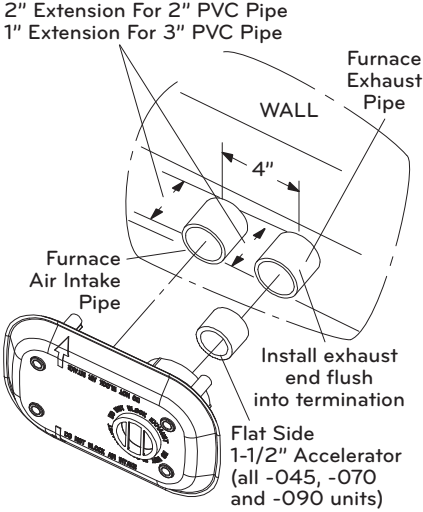
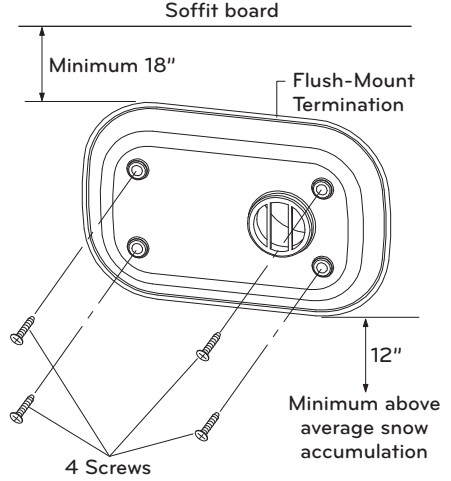
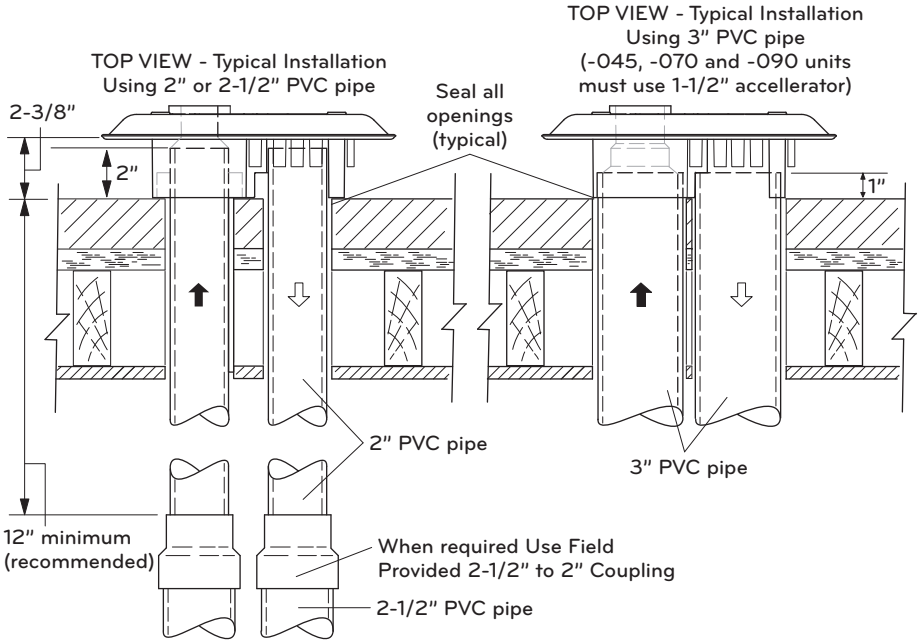

Fig. 7-18
Fig. 7-19
Fig. 7-20
- When determining pipe length, include the length of exhaust and intake pipes that extend beyond the wall and are flush into the flush mount termination. For 3" pipe add an extra inch to the overall length. For 2" pipe add an extra 2" to the overall length. See Fig.7-18.
- The 1-1/2" accelerator must be used for all unit installations. Fully insert and glue the accelerator (flat side first) into the 2" exhaust opening. See Fig.7-18.
- Install the intake pipe and exhaust pipe through the holes drilled in step 4 and into the flush mount termination. Exhaust pipe may be glued but it is not necessary. See Fig.7-18. Seal all openings as indicated in Fig.7-20.
- Secure the flush-mount termination to the wall using the provided screws and anchors or field-provided screws if applicable. See Fig.7-19. Termination should be flush against the wall as shown in Fig.7-20.